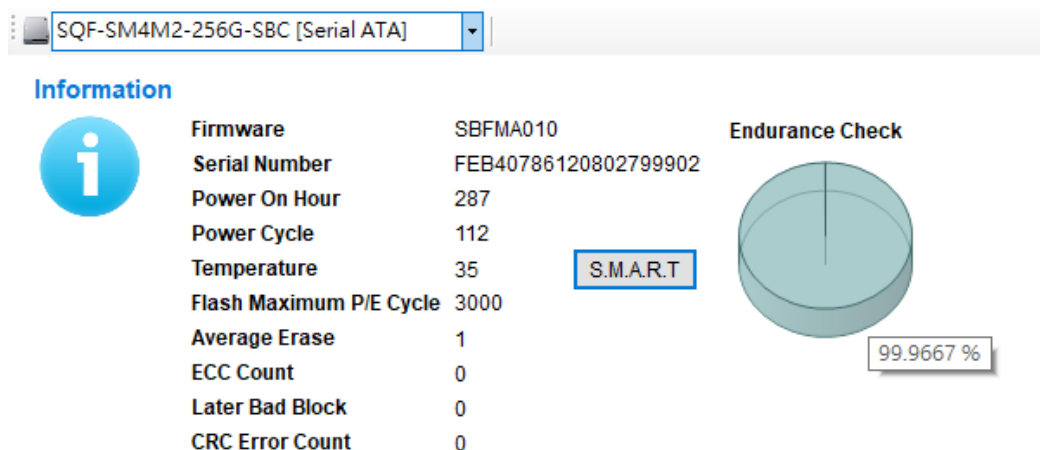

Figure 1. SSD Information and Endurance Check
S.M.A.R.T. information in the SATA specification contains up to 256 information items. Some information is specific to traditional HDDs or SSD-related information, while some is considered manufacturer-defined or undefined information. To help users quickly understand the SSD status and information, Advantech's SQFlash Utility provides data for the 10 key parameters listed in the Information column, as shown in Figure 1. The data is obtained by decoding and calculating S.M.A.R.T. attributes. The remaining SSD endurance is presented in percentage using a pie chart. With this information, users can quickly understand the SSD status and establish contingency measures accordingly.